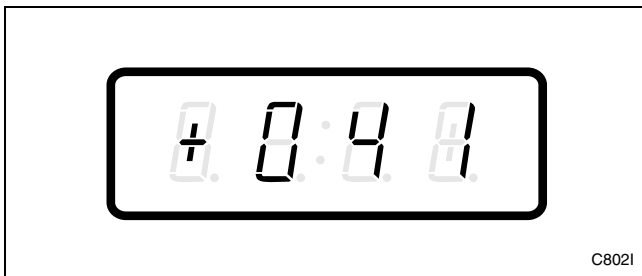

Figure 154
3. Press the DELICATES (+) or the COLD (-) keypad to scroll through the programmable options until “+041” appears in the VFD. Refer to *Figure 154*.